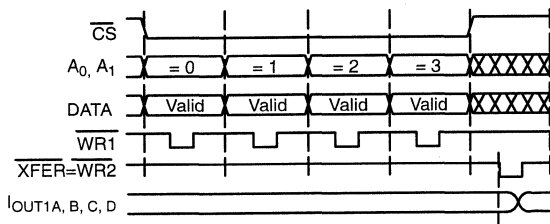

Figure 5. Simultaneous Updates of DACs
- 1) Simultaneous updates of any number of DACs. The system uses from one (two) to four (eight) cycles to write from a 12 (8) bit bus into B1/B2 latches. One transfer cycle updates the output of all DACs (Figure 5.)